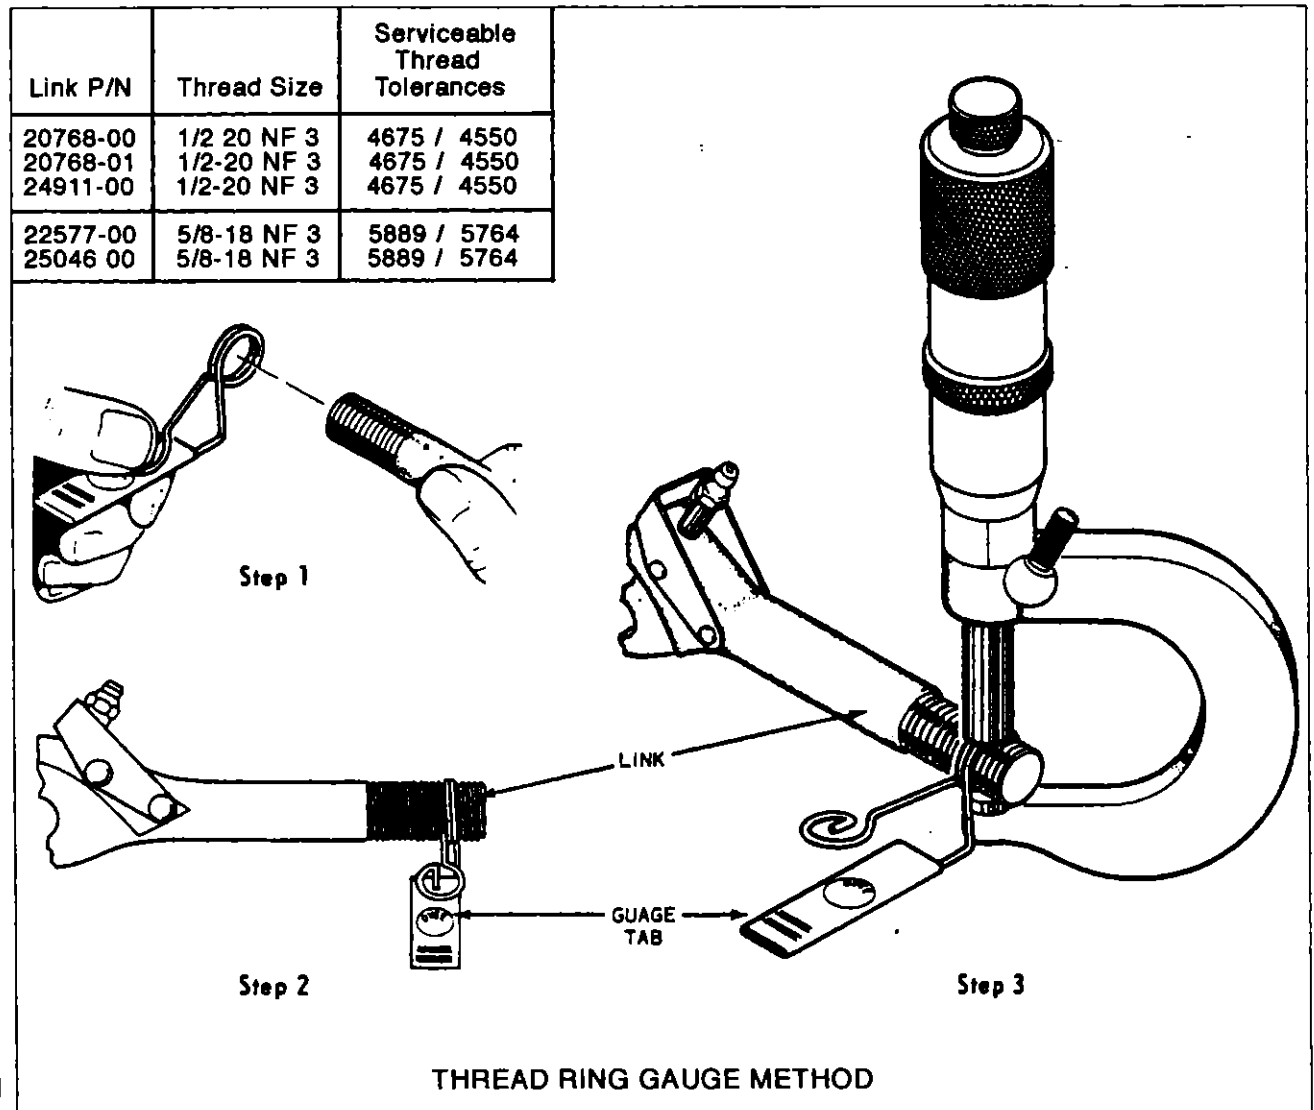

Figure 6-8c. Main Gear Side Brace Link Tolerance
1. Thread Ring Gauge Method (See Figure 6-8c). The following is the suggested method for checking thread wear:
(a) Procure standard thread ring gauges for the thread sizes specified in Figure 6-8c.
(2) Using the instructions provided by the thread ring gauge manufacturer, check thread wear and determine pitch diameter. Figure 6-8c shows a typical three-step process.
3. If the link is worn in excess of the tolerances given in Figure 6-8c, it must be replaced.